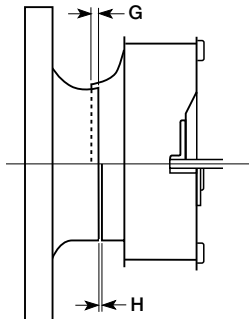

Figure 9
1. Check all fasteners for tightness. The wheel should rotate freely and be aligned as shown in Figure 9. Wheel position is preset and the unit is tested at the factory. Movement may occur during shipment, and realignment may be necessary. Centering can be accomplished by loosening the bolts holding the inlet (venturi) panel and repositioning. Wheel and inlet cone overlap can be adjusted by loosening the setscrews in the wheel and moving the wheel to the desired position.